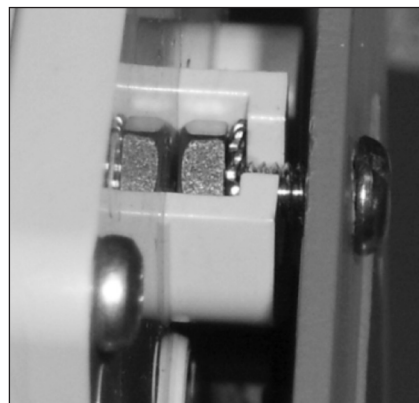

Figure 7.25 Example - Mounting plate attached to the nut
- By tilting the bottom of the Endpoint away from the mounting plate slide the notched mounting slot under the nut as shown in Figure 7.25 Example. Leave the screw loose for now.